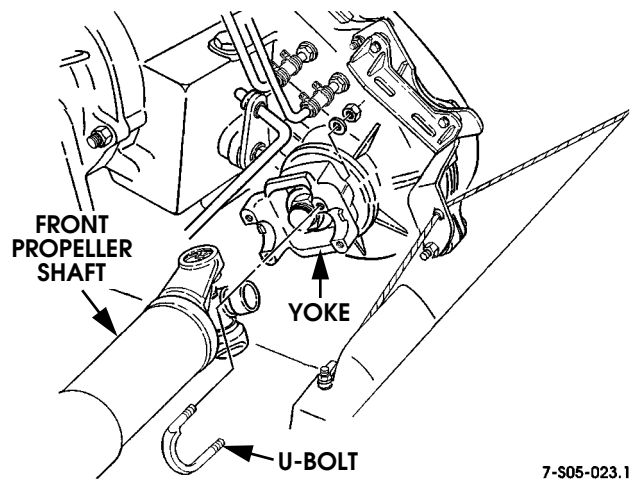

Figure 5-78: Disconnecting/Connecting Front Propeller Shaft
2. Disconnect front propeller shaft at yoke. Retain U-bolts and nuts (Figure 5-78).